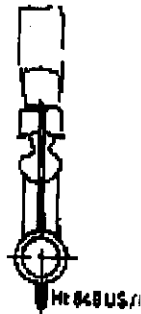

Figure 11
- Burner flames should be blue and there should be no lifting of flames from burner ports. See figure 11.